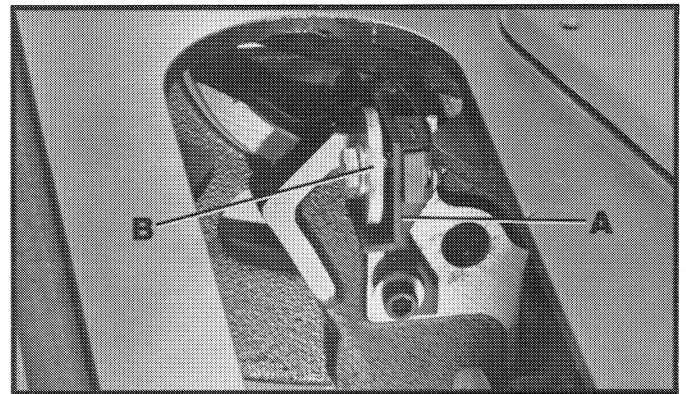

Fig. 12
11. Assemble screw, flat washer and splitter fastener plate (B) Fig. 12, to the splitter bracket (A), as shown. Do not tighten screw.